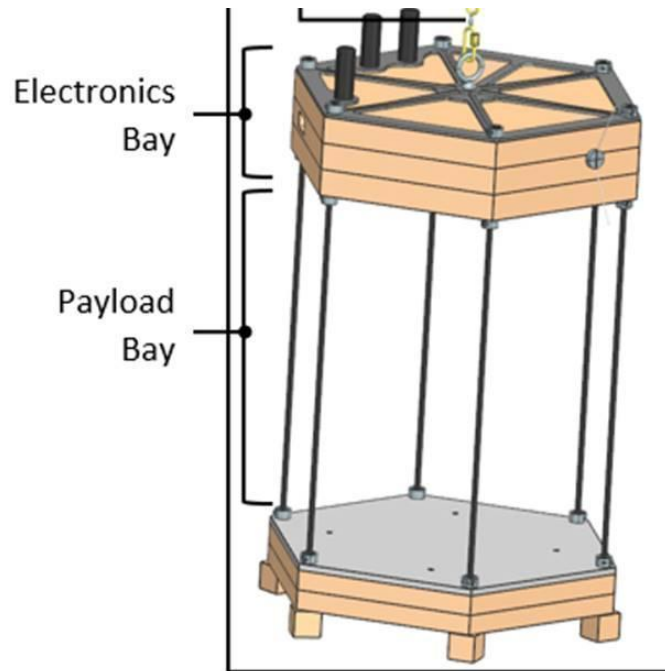

Figure 1: Payload volume must fit within the payload bay and not conflict with the 6 structural rods.
- The payload must be contained in a cylindrical volume of up to 524 mm in height and 285 mm in diameter, shown in Figure 1.